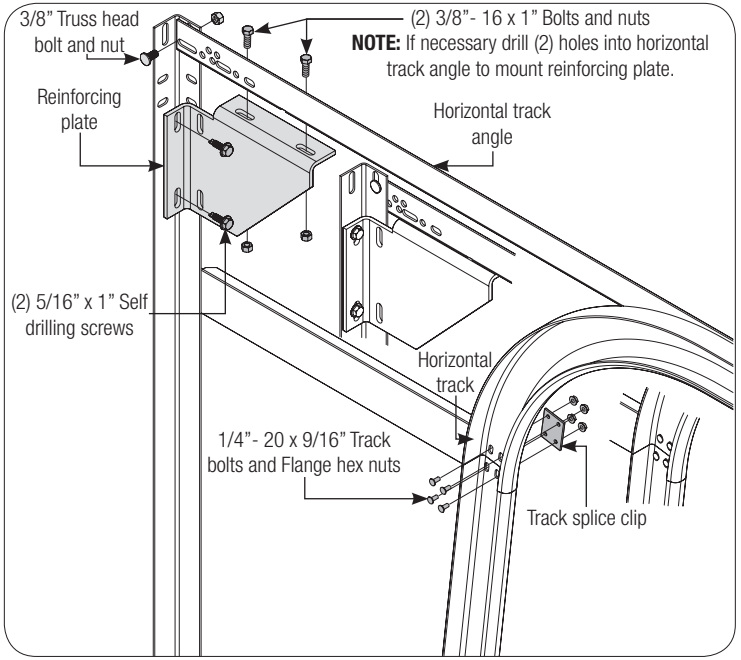

FIG. 3.1
Attach reinforcing plate to horizontal track angle with (2) 3/8" - 16 x 1" bolts and nuts; secure to angle with (2) 5/16 x 1" self drilling screws, as shown in FIG. 3.1.